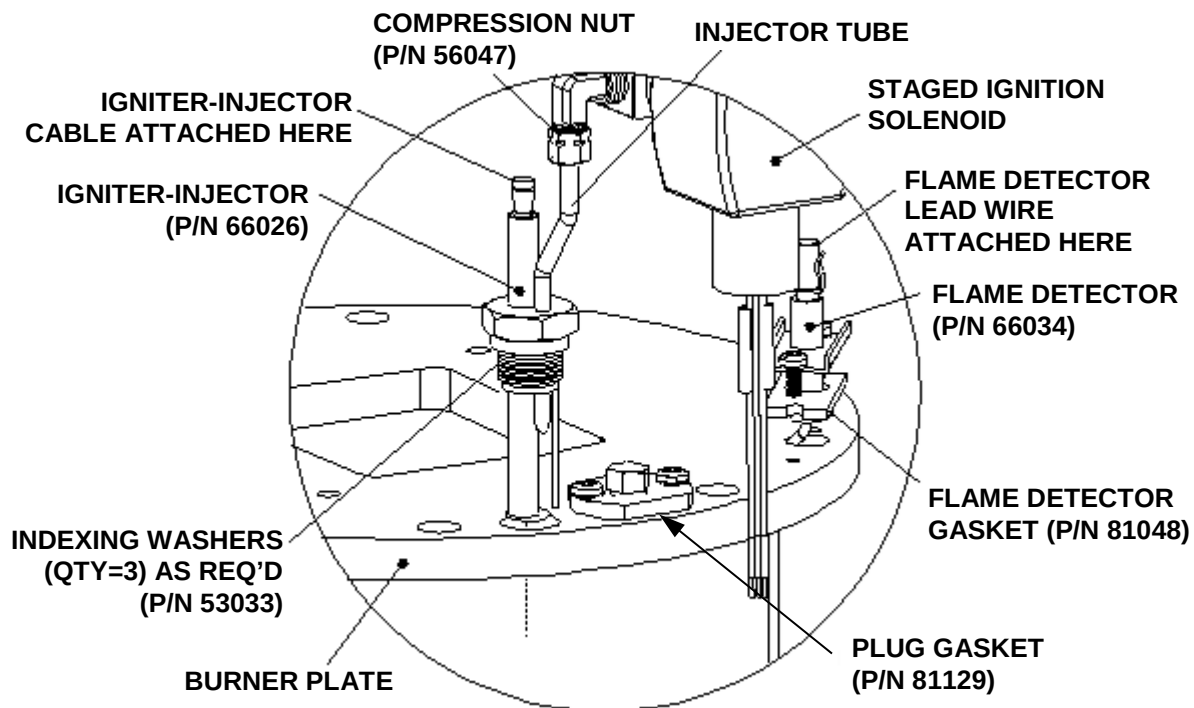

Figure 6: Partial Exploded View Showing Flame Detector, Igniter-Injector, and Staged Ignition Assembly on Burner Plate
2. Disconnect the lead wire from the Flame Detector shown in Figure 6. Unscrew the two screws and remove the Flame Detector and gasket.
3. Disconnect the igniter cable from the Igniter-Injector (Figure 6).
4. Refer to the partial exploded view in Figure 6. Using a 7/16" open-end wrench, disconnect the compression nut securing the Gas Injector Tube of the Igniter-Injector to the elbow of the Staged Ignition Assembly. Remove the compression nut from the elbow and discard, as it will be replaced with a new one from the kit at reassembly. Disconnect the Staged Ignition assembly from the Igniter-Injector.
2. Connect lead wire to the Flame Detector (Figure 6).
3. Attach igniter cable to the Igniter-Injector assembly (Figure 6).